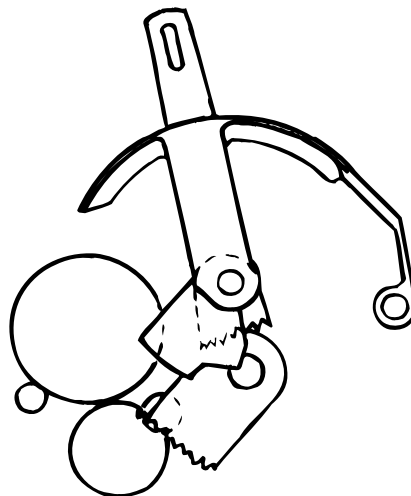

Figure 2-13
(7) Paper clamp mechanism (See Figure 2-13.)